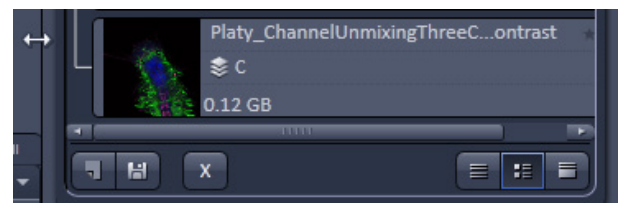

Fig. 644 Enlarging the image view
- In case long filenames are used the whole section can be dragged to the left and thereby enlarged (Fig. 644).